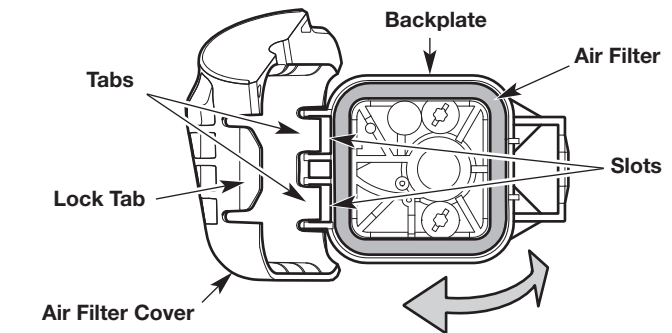

Fig. 7
1. Open the air filter cover: press in the lock tab and swing the air filter cover to the left (Fig. 7).
2. Remove the air filter (Fig. 7).
6. Reinstall the air filter (Fig. 7).
7. Close the air filter cover: insert the tabs on the air filter cover into the slots on the backplate. Swing the air filter cover to the right and press it closed until the lock tab snaps into place (Fig. 7).